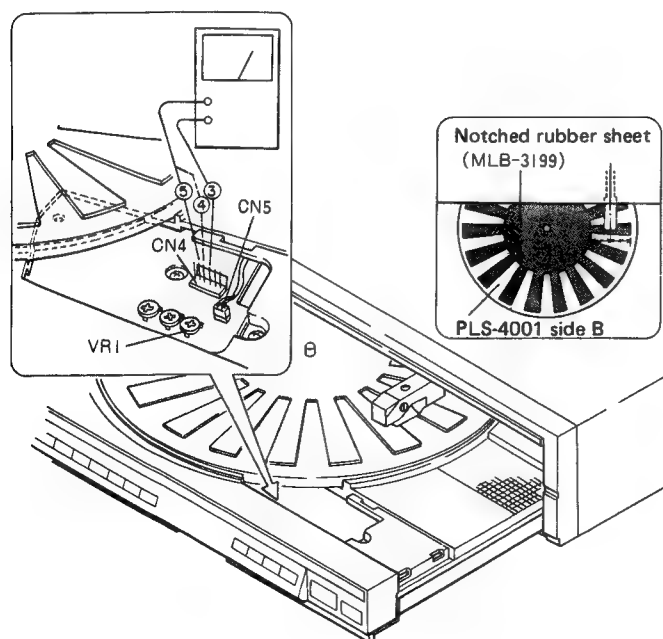

Fig. 12-5 Band Sensor Gain Adjustment
3. Turn on the power and set the speed to 45 rpm. Using the locate switch ( < ), move the tonearm over the center of the slits in the notched rubber sheet as shown in figure 12-5.